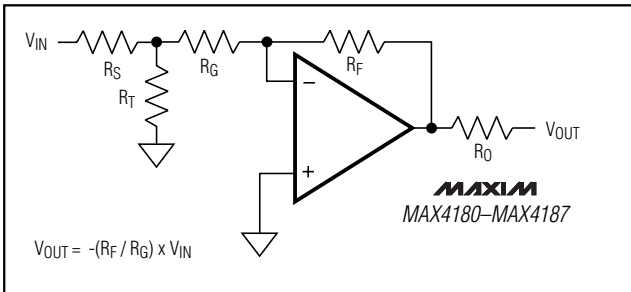

Figure 4a. Inverting Gain Configuration
The optimum value of the external-feedback (RF) and gain-setting (RG) resistors used with the MAX4180–MAX4187 depends on the closed-loop gain and the application circuit's load. Table 1 lists the optimum resistor values for some specific gain configurations. One-percent resistor values are preferred to maintain consistency over a wide range of production lots. Figures 4a and 4b show the standard inverting and noninverting configurations. **Note:** The noninverting circuit gain (Figure 4) is 1 plus the magnitude of the inverting closed-loop gain. Otherwise, the two circuits are identical.